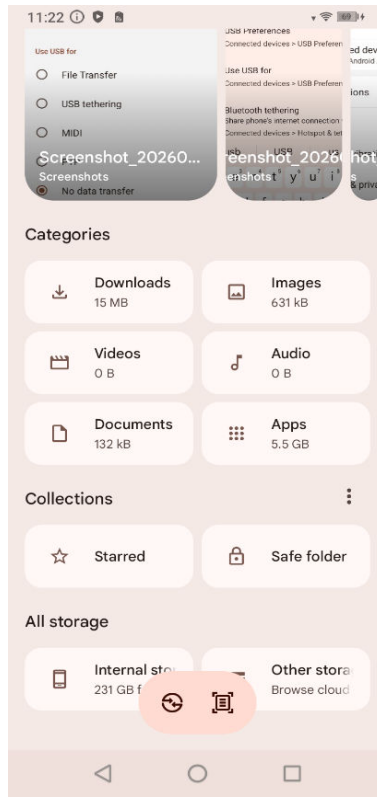

Figure 13 – Files
12. In the Files menu, select the “Downloads” (Figure 13).